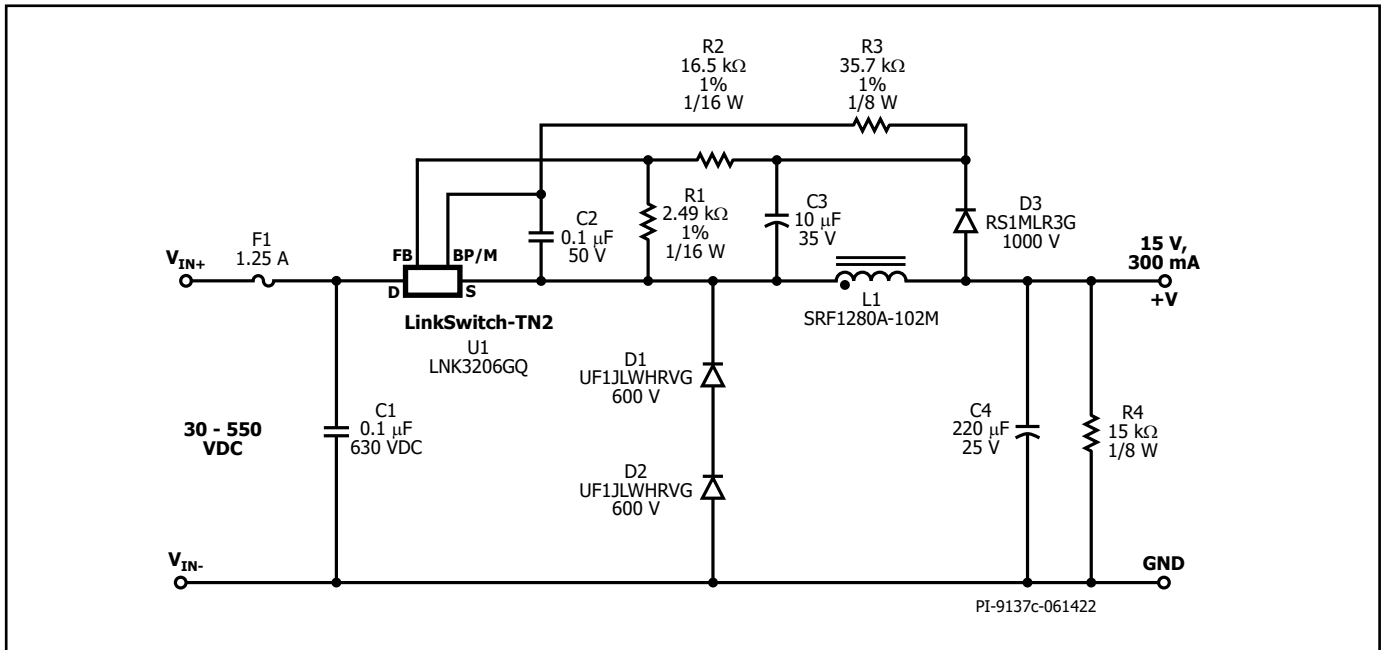
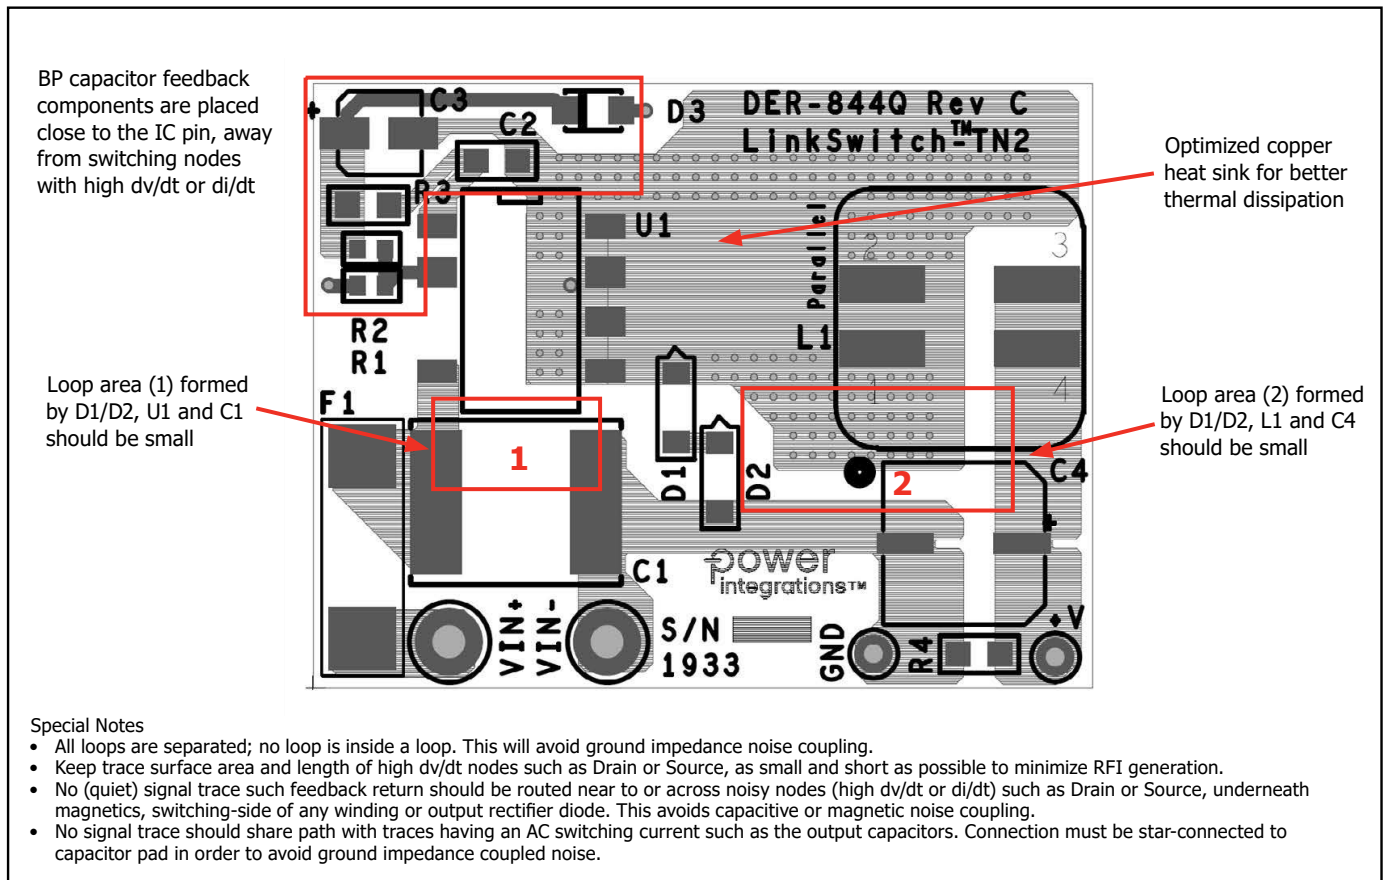

Figure 7. 30 VDC – 550 VDC, 15 V, 300 mA Constant Voltage Power Supply using LinkSwitch-TN2 Automotive.
Figure 8. Recommended Printed Circuit Layout for LinkSwitch-TN2 Automotive using G Package.
The circuit shown in Figure 7 is typical implementation of a 15 V, 300 mA non-isolated power supply used in automotive application. DC voltage from a battery source will be the input to the buck converter. The buck converter circuit was designed to meet AEC-Q100 Grade 3 temperature requirement of -40 °C to +85 °C.
Regulation is maintained by skipping switching cycles. As the output voltage rises, the current into the FEEDBACK pin will rise. If this exceed I_{FB} then subsequent cycle will be skipped until the current is reduces below I_{FB} . Thus, as the output load is reduced, more cycles will be skipped and if the load increases, fewer cycles are skipped. To provide overload protection if no cycles are skipped during 50 ms period, LinkSwitch-TN2 Automotive will enter auto-restart, limiting the average output power to approximately 3% of the maximum overload power. Due to tracking errors between the output voltage and the voltage across C3 at light load or no-load, a small pre-load may be required (R4). For the design in Figure 7, if regulation to zero load is required, then this value should be reduced to 5 kΩ.
Referring to Figure 7, the following considerations may be helpful in selecting components for a LinkSwitch-TN2 Automotive design. Selected component should be AEC compliant due to automotive application.
Figures 8 are printed circuit board layout design examples for the circuit schematic shown in Figure 7. The loop area 1 formed by LinkSwitch-TN2 (U1), free-wheeling diodes (D1, D2), and input bypass capacitor (C1) should be kept as small as possible. The loop area 2 formed by inductor (L1), output filter capacitor (C4) and free-wheeling diodes (D1, D2) should also be kept as small as possible. The BYPASS pin capacitor C2 should be located physically close to the BYPASS (BP) and SOURCE (S) pins. Effective decoupling capacitor C1 placement should be close to the DRAIN (D) pin. For a clean feedback signal, Feedback diode (D3) should be star connected to output cap (C4). Trace from output cap (C4) to Feedback diode (D3) should be space out properly away from switching nodes.